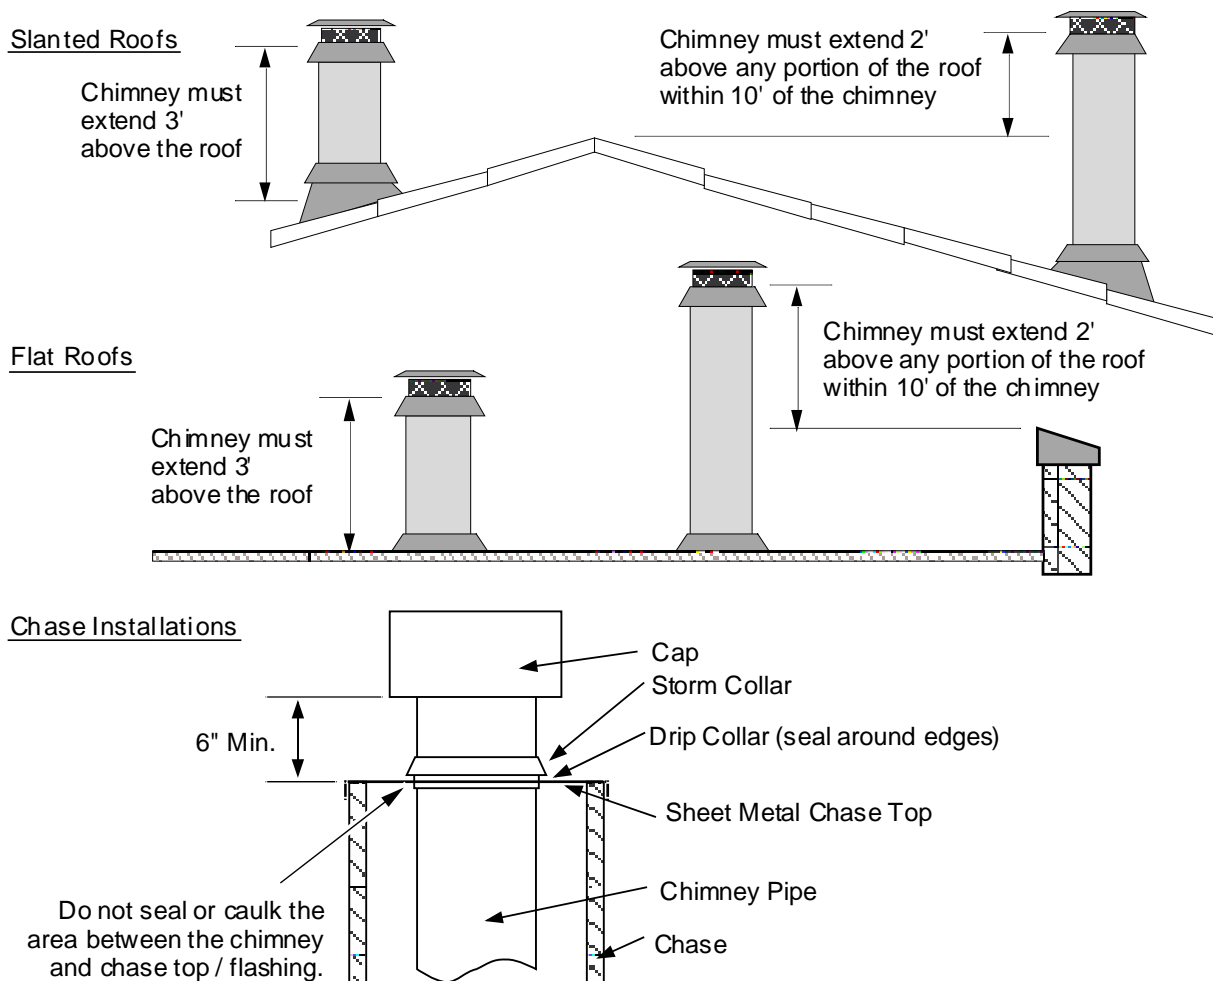

Figure 24
- The chimney must terminate a minimum 3' above the roof and 2' above any portion within 10' (measured horizontally – see Figure 24). This applies to flat and sloped roofs.